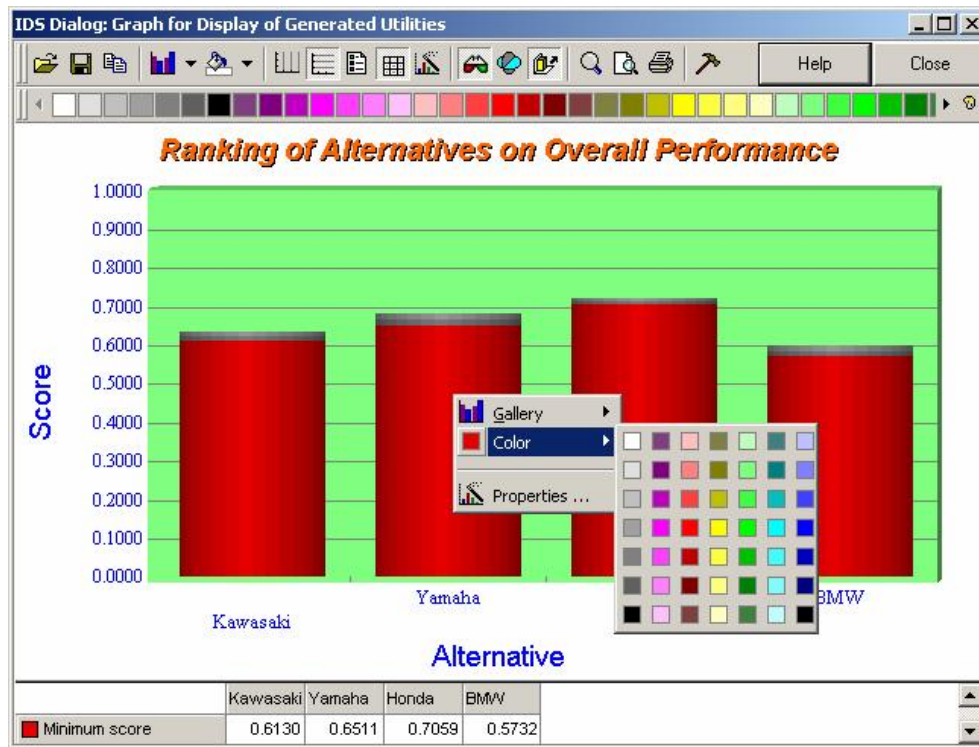
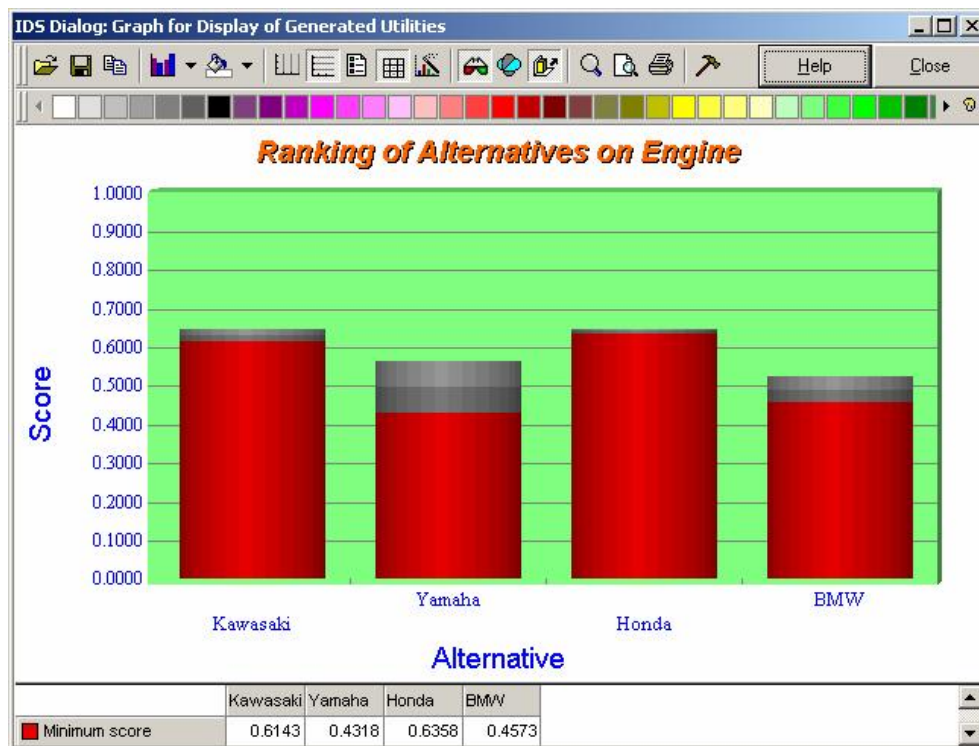

Figure 5.1 Performance Scores on Overall Performance
Figure 5.2 Performance Scores on Engine
You may view the assessment information for any selected alternatives on any selected attributes in the attribute hierarchy at any time – even when you have not gathered information for some of the bottom level attributes. In this case the missing information will be shown in the assessment as uncertainty in terms of performance score range (**Figure 5.2**).
3. Click the  button in the toolbar at the top of the window. The graph you see is similar to the one shown in **Figure 5.1** (for the *Overall Performance* attribute) or **Figure 5.2** (for the *Engine* attribute).
The results in **Figure 5.1** or **Figure 5.2** display the performance scores for all the alternatives on the selected attributes. Because there are some missing data in the assessment information, the graph provides a lower and upper bound of the performance scores, so that you know that the scores will be in the range marked in grey whatever the missing data turn out to be.
(Note that if you wish to change any colour in the figure, you can right click the colour and then select *Color* to pick up a desired colour from the provided colour pallet, as shown in Figure 5.1)
When there is missing information in alternative assessments, the score ranges generated by the ER approach, such as the ones shown in **Figure 5.1** and **Figure 5.2**, are the outcomes of a kind of global sensitivity analysis carried out on the possible ranges of missing information.